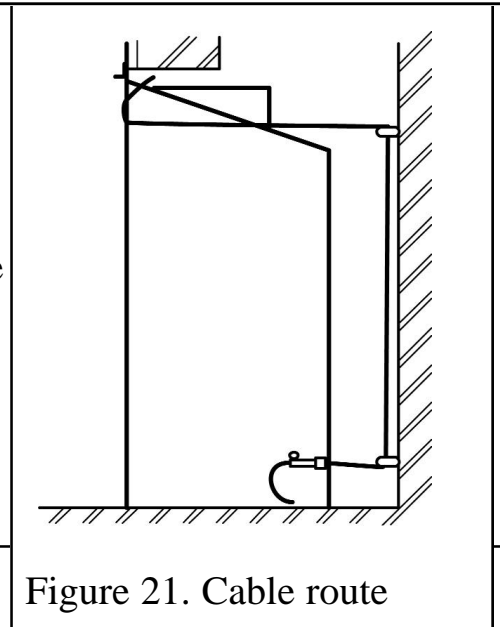

Figure 21. Cable route
6. Thread the cables through the eyebolts. Return the cables through the holes near the bottom of the hotbox back panel (See figure 21). **(For precast or clay block flue systems return the cables through the slotted holes in the side of the hotbox).**